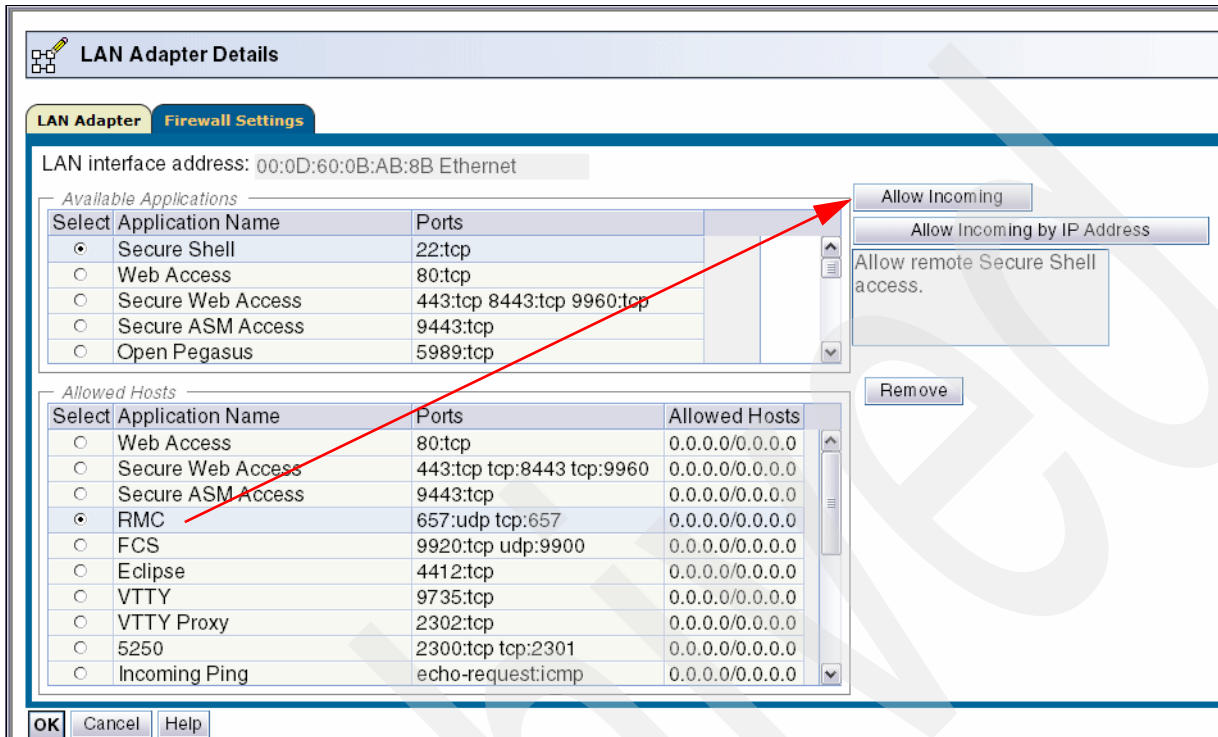

Figure 3-12 Customize Network Setting - LAN Adapters - enabling the RMC application
- Click the **Firewall Settings** tab to bring up the window shown in Figure 3-12. Scroll down the Available Applications area to see if RMC is already specified as available. In our example we assume that RMC has not yet been made available. Therefore, select **RMC** in the lower Allowed Hosts pane and click **Allow Incoming**, as shown in Figure 3-12.